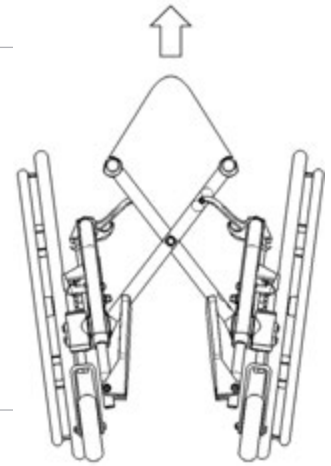

Fig. 2
- Lift the handle on the seat upholstery (Fig 2).